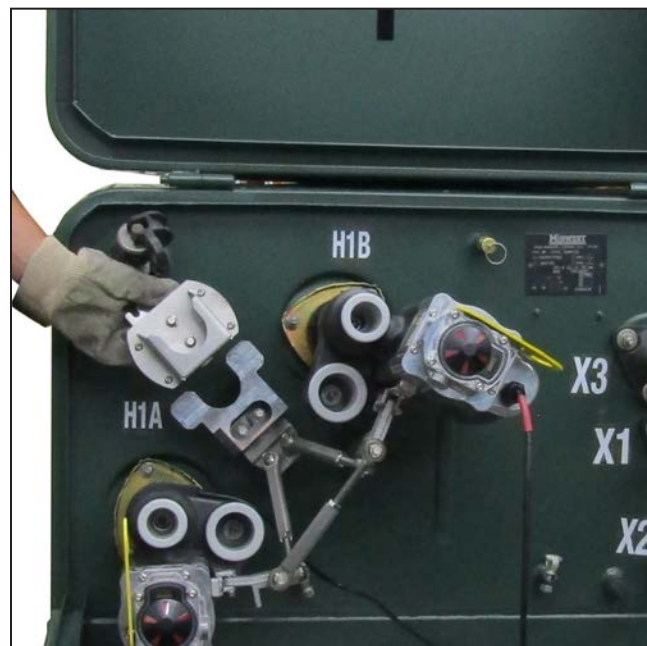

Figure 29. Sliding the parking stand spacer onto the parking stand.
- STEP 2.** Slide the parking stand spacer onto the parking stand. See Figure 29.